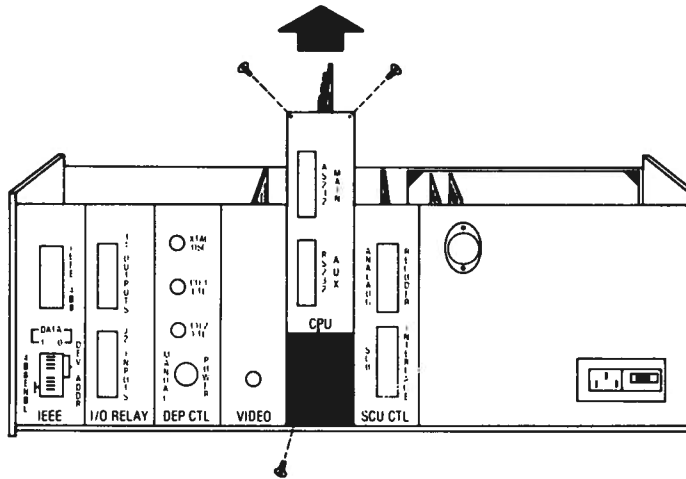

Figure 7.2 CPU Board Removal
2. Remove the CPU board (No. 017-332) which is the long printed circuit board in the middle of the unit (Figure 7.2). To remove this board, take out the three screws on the rear of the panel holding it in place - then lift the board straight out of its socket.